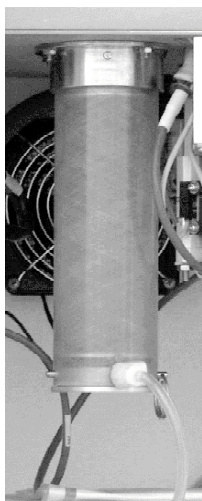

Figure Z.4.0.1
- a. Remove the air hose to the left supply magazine. See Figure Z.4.0.1